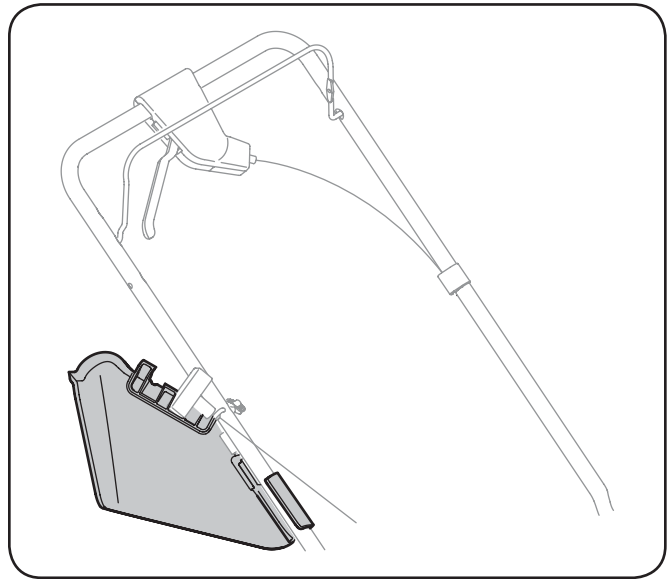

Figure 7-6
- Secure side discharge chute to handle as shown in Fig. 7-6.